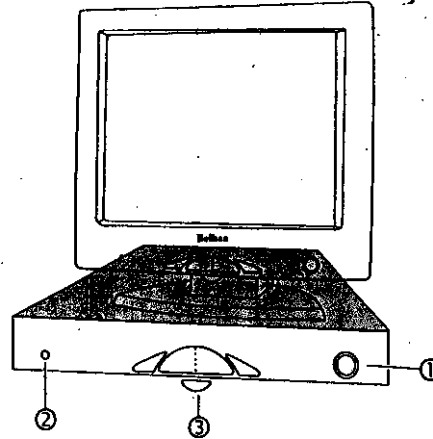

Figure 3. LCD monitor features
4. First, turn on your PC, and then turn on your LCD monitor with the power button (see ① in Figure 3). The status indicator (see ② in Figure 3) should light up green.
You can adjust the brightness using the OSD dial (③ in figure 3). Turn the dial clockwise to increase the brightness or turn it counter-clockwise to reduce brightness.
switches to the power saving mode. When the device is in power saving mode, the color of the status LED (see ② in figure 3) will become orange.